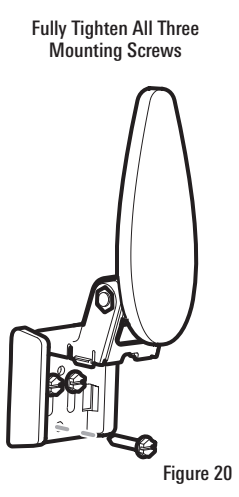

Figure 20
9. Re-position the transducer assembly against the transom of the boat, then hand-install all three screws. Make sure that the transducer location and the pivot angle have not changed, then fully tighten all three mounting screws (Figure 20). Snap the pivot back down. If you have performed the preceding procedures correctly, the transducer should be level and at the right height for optimal operation.
3. Re-position the transducer assembly against the transom of the boat, then hand install the first three screws (two on the outside edge and one in the 3rd mounting hole). Make sure that the transducer location and the pivot angle have not changed, then fully tighten all three mounting screws (Figure 20). **Hand-tighten only!**